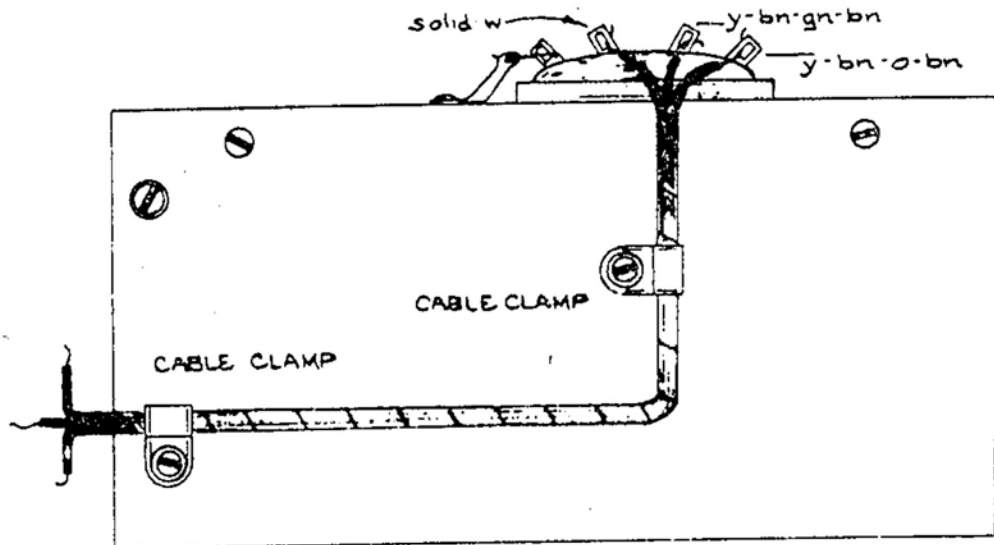

FIG. 5
- () 14. Mount the cable assembly* (from kit) on the side of the C.S. box with the two cable clamps (from kit). See Fig. 5. Use the 6-32 PHS screws, flat washers, lockwashers and nuts from the kit.
- () 51. Solder the three wires to the transformer terminals, as shown in Fig. 5.